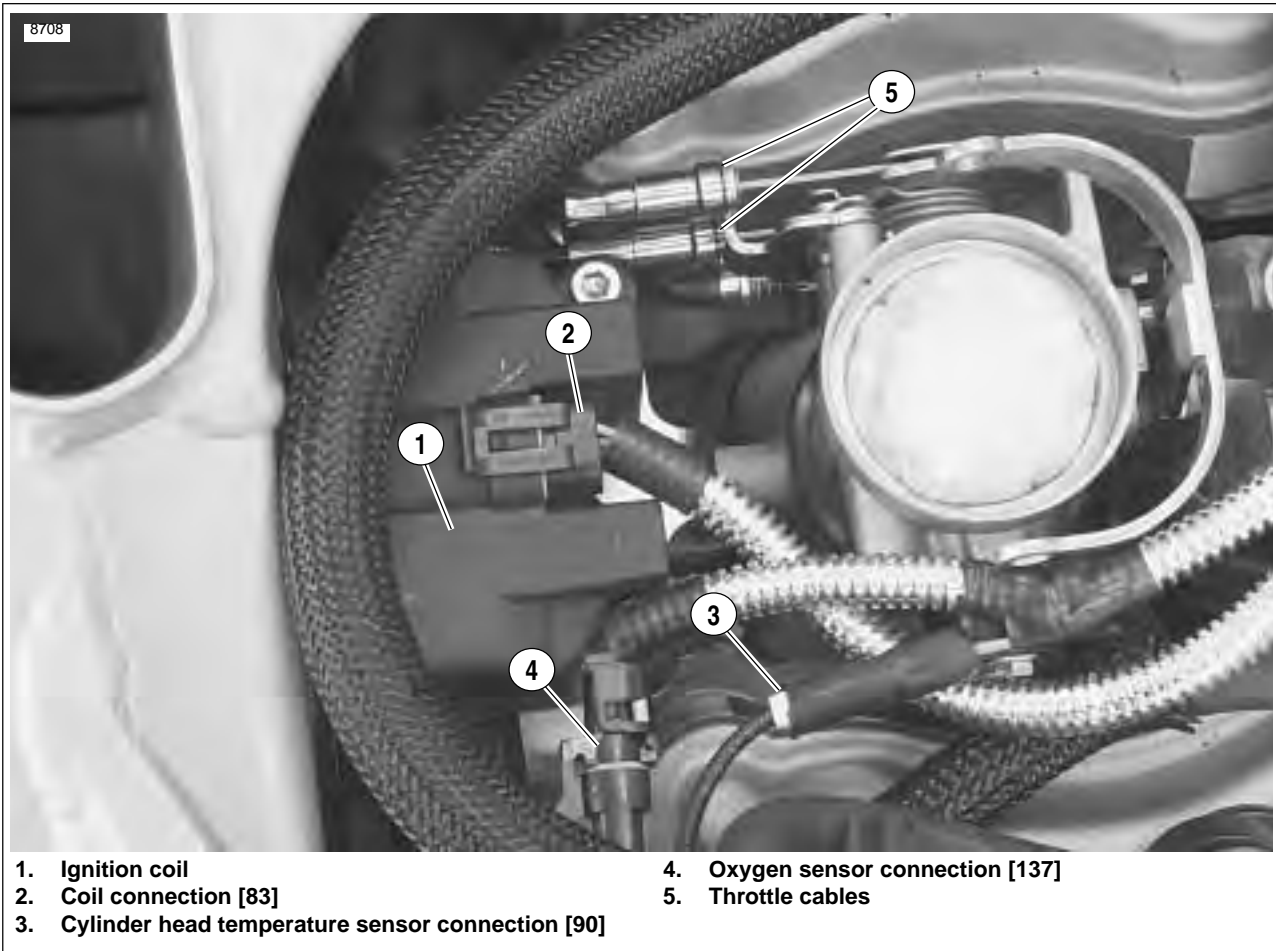

Figure 3-17. Electrical Connections and Throttle Cables
9. See Figure 3-17. Disconnect the ignition coil connector (2) and remove.
- c. Temperature sensor (3) [90].
- d. Oxygen sensor (4) [137].